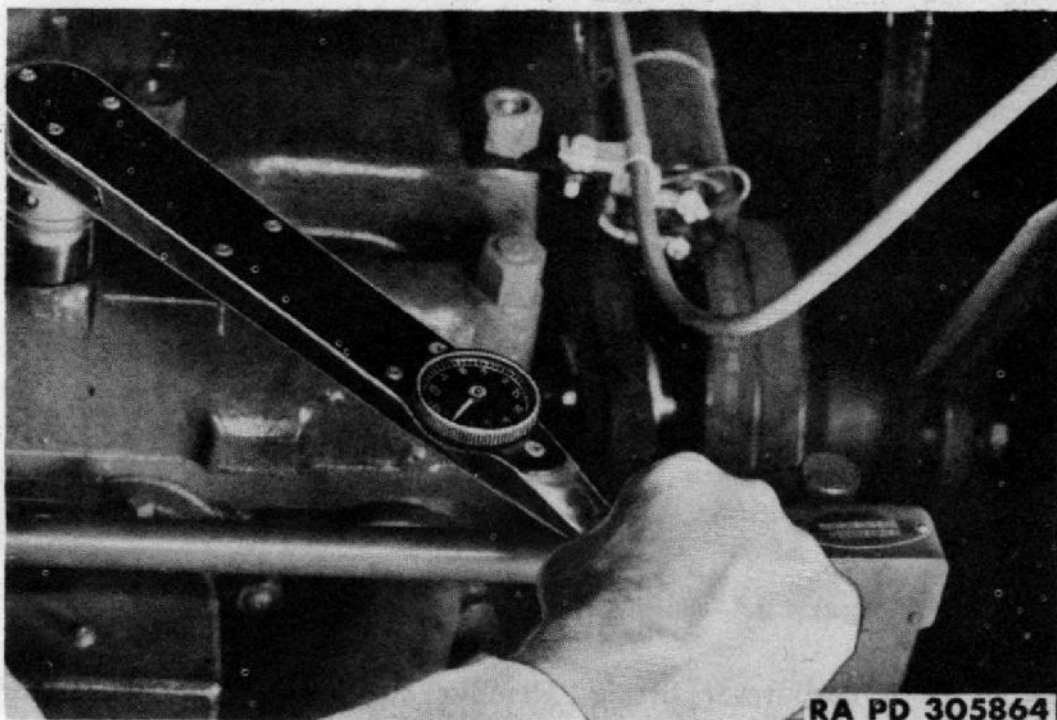

Figure 35—Tightening Cylinder Head Nuts with Wrench 41-W-3630
b. Tighten Cylinder Heads. Tighten all nuts gradually, using a tension wrench and following the tightening sequence shown in figure 35, until both cylinder heads are tightly secured. The proper tension reading for each nut is 105 foot-pounds.